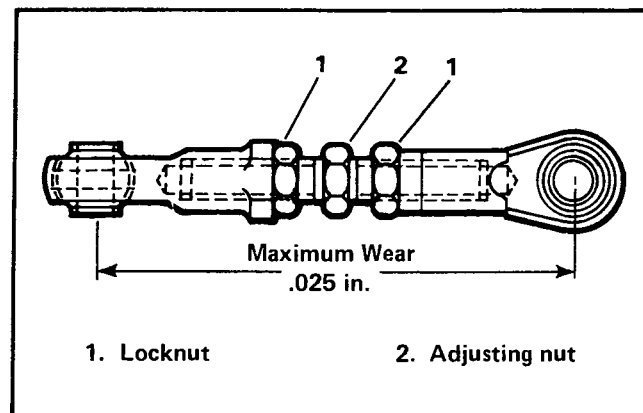

Figure 6. Stabilizer Assembly
- Tighten the stabilizer jamnuts (1, Figure 6) and the front engine mounting bolts.
Check the stabilizers for wear every 1,250 miles, using a dial indicator. With the stabilizers on the motorcycle, compress and release each one. If the movement is greater than .025 inch, replace the stabilizer (see Figure 6).